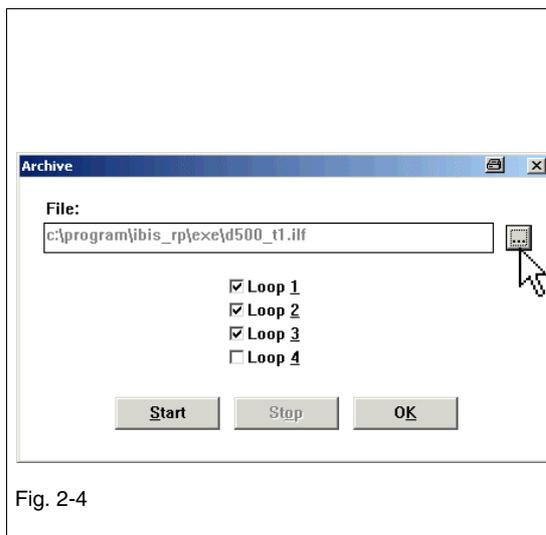
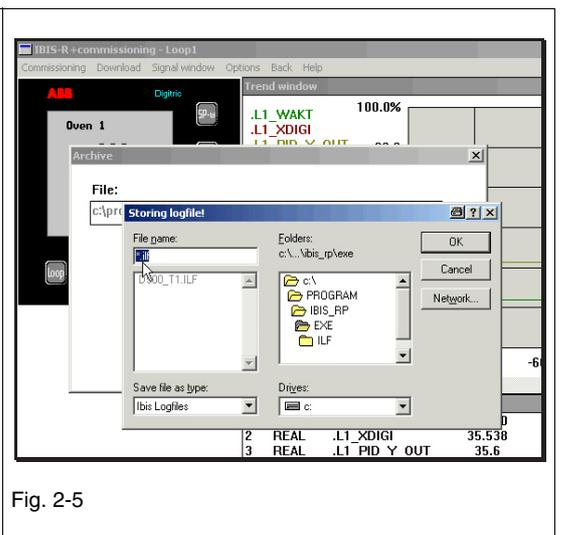

Fig. 2-4
Fig. 2-5
- Name and locate the Log-File, where the data shall be collected. You can place the Log-File directly into an existing folder. Or you create a new folder using the file browser where you want the Log-Files located later on. After pressing → , s. Fig. 2-4, the "Storing logfile!-window" opens, s. Fig. 2-5. Here you can name the archiving file and choose for where to store it.